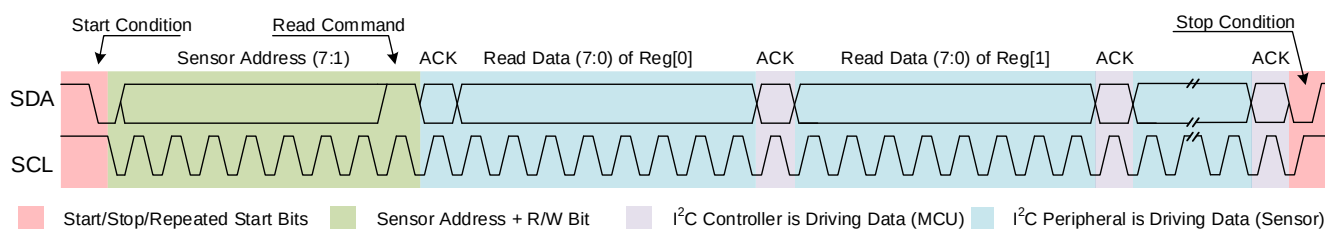

Figure 16: I²C Quick Read Mode
In I²C quick read mode, the controller sends the start condition, sensor address, and the read command (1); the MV300 sequentially returns the data contained in registers 0x00~0x16 (see Figure 16). To close communication, a stop condition is required.